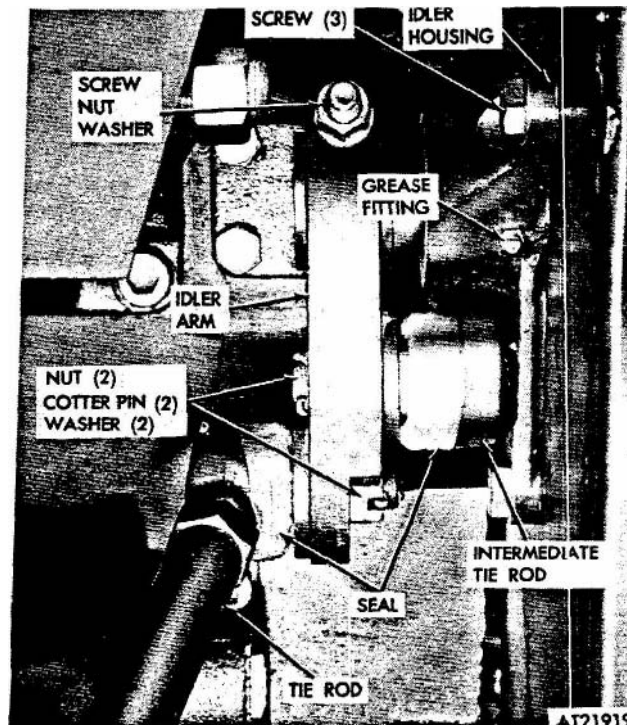

Figure 2-266. Tractor idler arm and housing, removal and installation.
(1) Remove cotter pins, washers and nuts securing tie rod and intermediate rod to idler arm (fig 2-266).
(2) Disconnect tie rod and intermediate rod from idler arm, using tie rod removal tool (11595179). Remove and discard seals.
(3) Remove idler arm by removing nut, lock washer, and screw securing idler arm to idler housing assembly shaft.
(2) Disconnect tie rod and intermediate rod, using removal tool (11595179). Remove seals.
(3) Remove idler arm by removing screw, nut and lock washer securing idler arm.
(4) Remove idler housing assembly by removing three screws housing to tractor frame.
(1) Position idler housing assembly to mounting holes and secure with three screws. Torque screws to 45-55 lbs-ft. (fig 2-266).